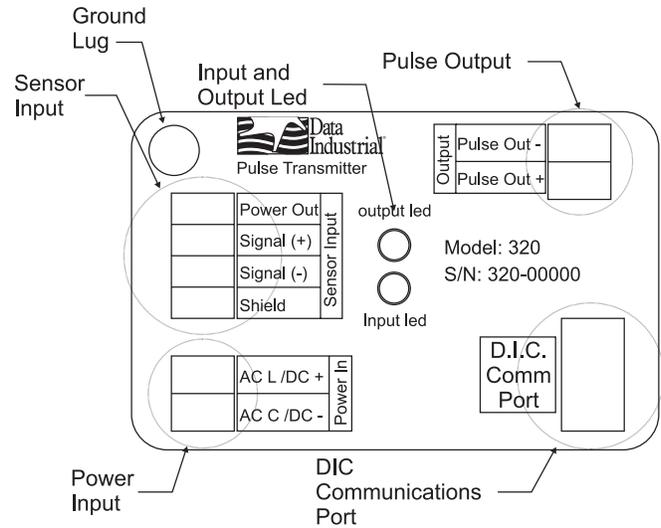

Figure 1: Series 320
1. Refer to Figure 1 for terminal connections.